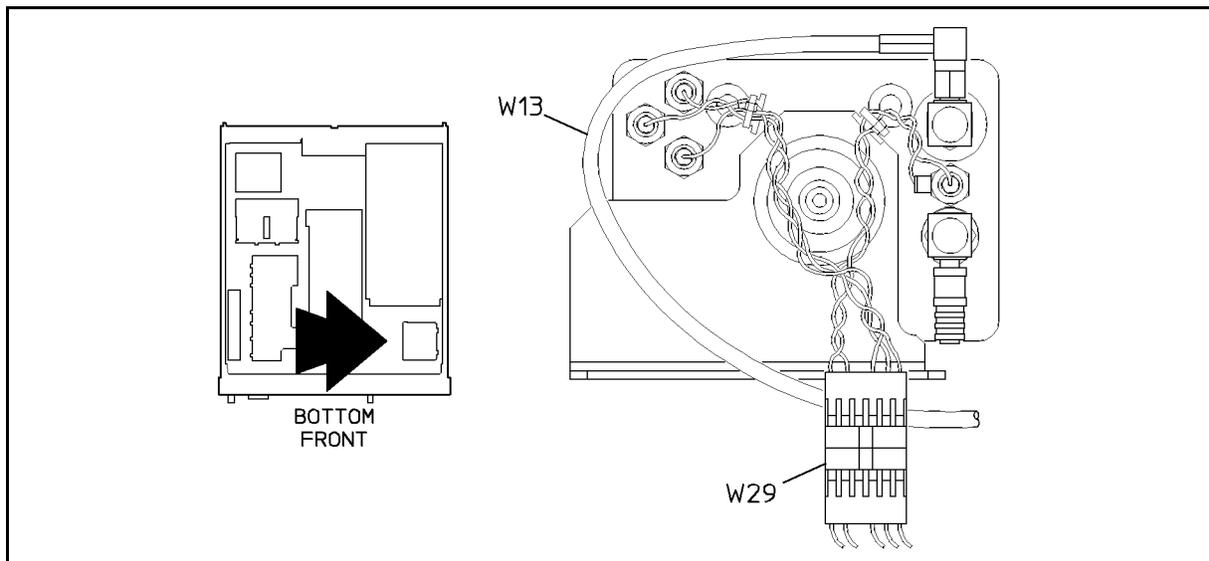

Figure 5-17. Crystal Oscillator Cables
3. In the introduction to this chapter, refer to “Flexible Coaxial Cables,” “Multi-wire Cables,” and Figure 5-17. Then, after cutting away the tie wrap, disconnect the following cables :
- a. W29 (rainbow DC “Osc” with black connector) from the crystal oscillator as shown in Figure 5-17.
- b. W13 (red 10 MHz with unthreaded SMB connector) from the oscillator as shown in Figure 5-17.